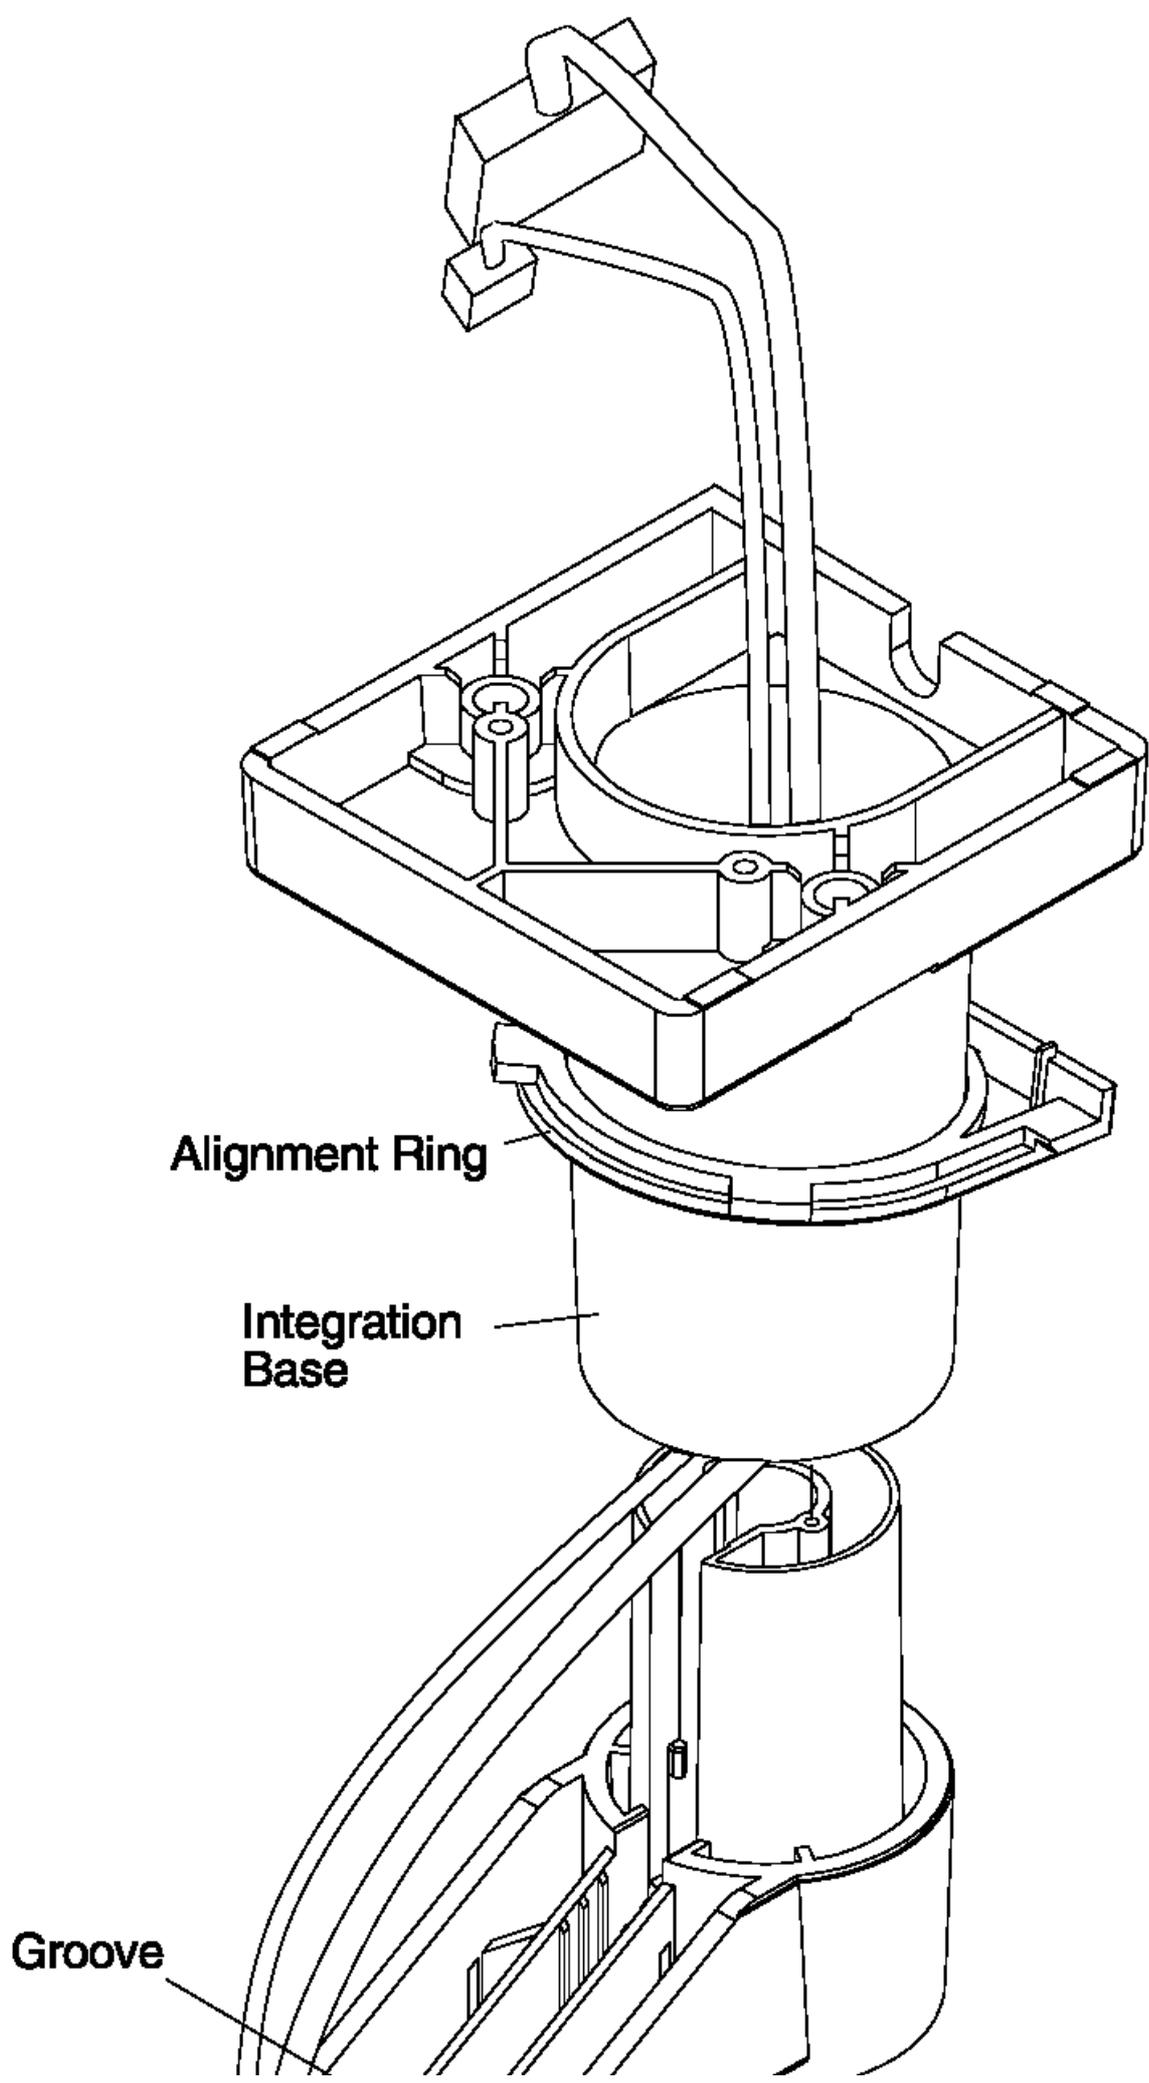

Figure 3-26. Integration Kit
4. Disconnect the arm from the integration base and remove the cables from the integration base. See Figure 3-26 in topic 3.8.2.2.
2. Separate the arm from the integration base. Make sure that the alignment ring is on the base. See Figure 3-26.
| cables are positioned in the groove of the arm. See Figure 3-26.